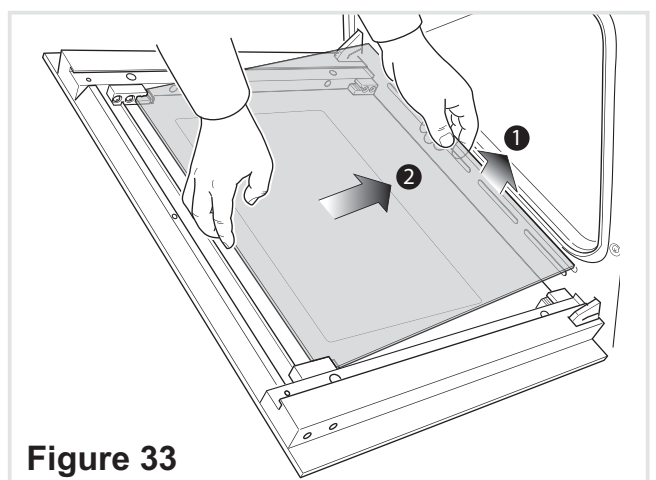

Figure 33
- Gently lift the bottom edge of the pane (arrow 1 in fig. 33) and remove it by pulling it out from the top clamps (arrow 2 in fig. 33).